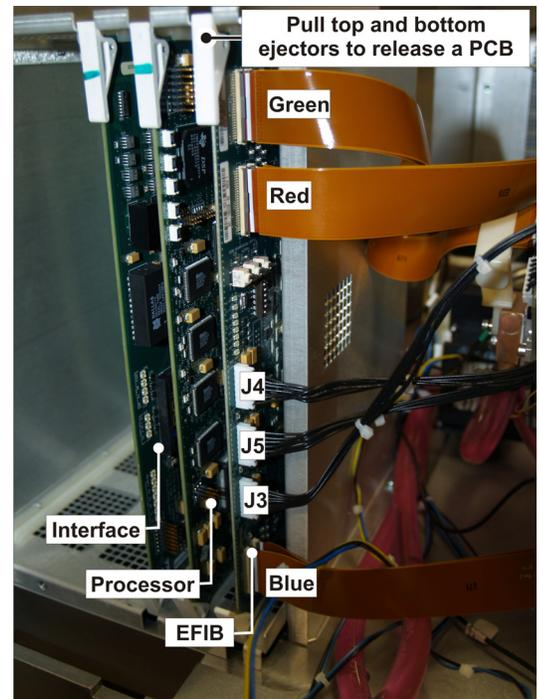

FIGURE 1-19 EFIB PCB
8. Disconnect the 6 flex cables and 3 power cables from the EFIB PCB. (Figure 1-19)